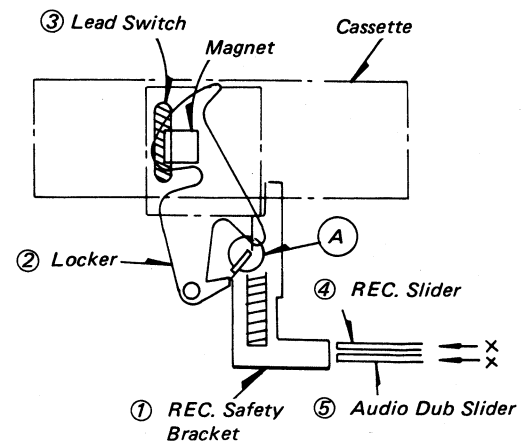

Fig. 5-3 Detecting Arrangement in Record Safety State
1. When the record safety tab is broken, the record safety bracket (1) is not pressed down completely to the end, but the locker is locked because the portion (A) is released. The lead switch (3) passes a loading voltage.
2. As the record safety bracket (1) is not at the end, it stops the REC slider (4) and AUDIO DUB slider (5) as shown in Fig. 5-3. This means that REC button and AUDIO DUB button can not be depressed.